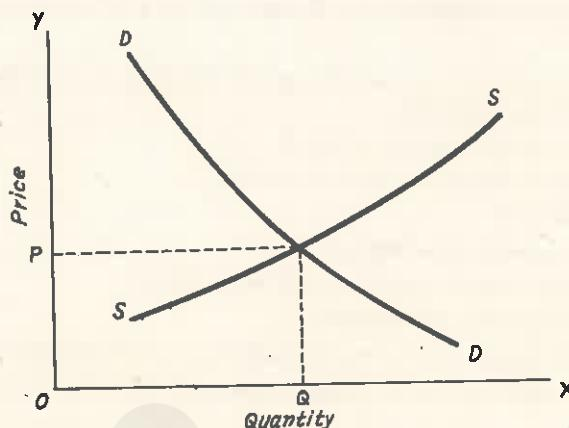

Fig. 35.9. The Equilibrium Price.
- In order to determine equilibrium price, Fig. 35.9 is plotted from a combined Supply and Demand Schedule like one given as Table 35.6.
- Fig 35.9 is plotted from the data given in table 35.6. SS is the supply curve and DD is the demand curve.
- Fig 35.9 shows that at price P , quantity demanded = quantity supplied = Q .